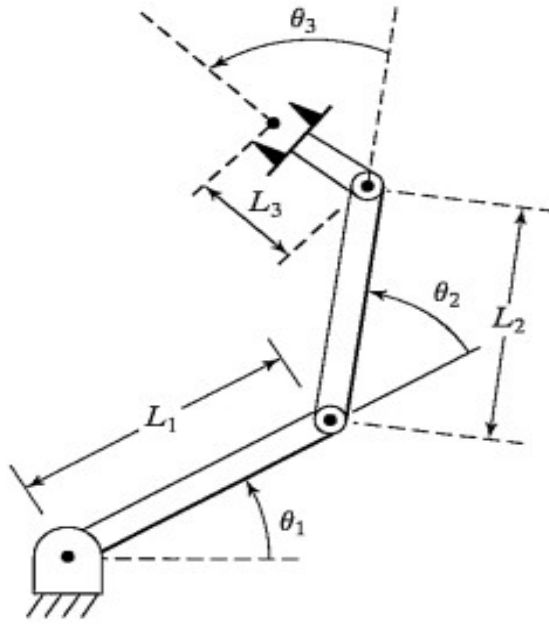

Figure Q1b
- (ii) Figure Q1b is a three-link planar arm. Assign link frames to the mechanism and give the Denavit —Hartenberg parameters. [11 marks]